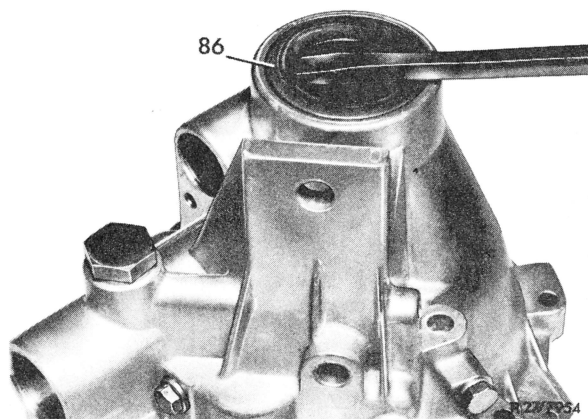
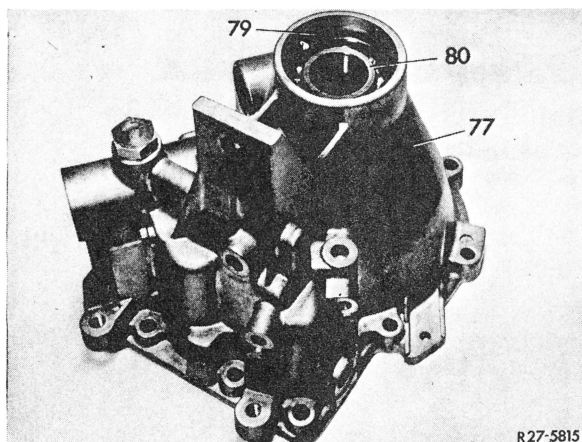
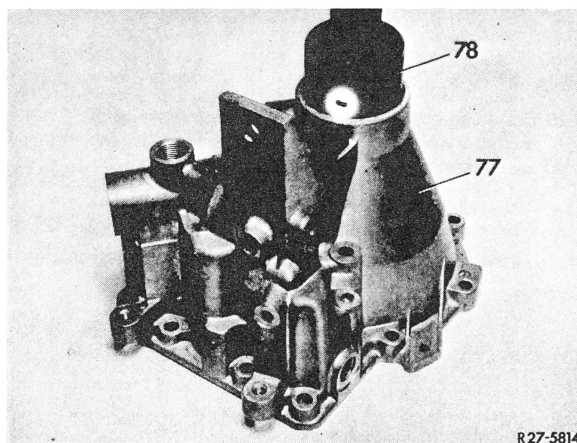

Fig. 4
Fig. 5
Fig. 7
**8** Push sealing ring (86) out of rear transmission case (Fig. 4).
**14** Press-in ball bearing (80) (Fig. 5) with assembly mandrel (78) (Fig. 7).
**15** Insert locking ring (79) (Fig. 5), press-in sealing ring (86) (Fig. 4).